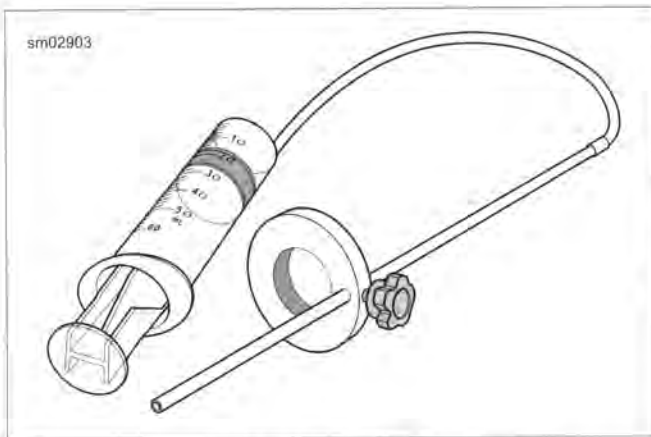

Figure 2-104. Fork Oil level Gauge
- a. See Figure 2-104. Obtain FORK OIL LEVEL GAUGE (Part No. HD-59000B).